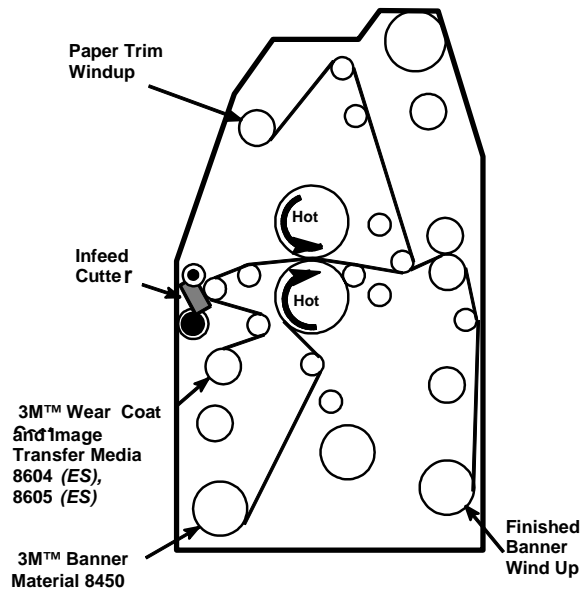

Figure 3. Second Surface Only:
2. See Figure 3 for how to thread the laminator. Since the transfer media has a built-in wear coat, an overlamine must not be used.